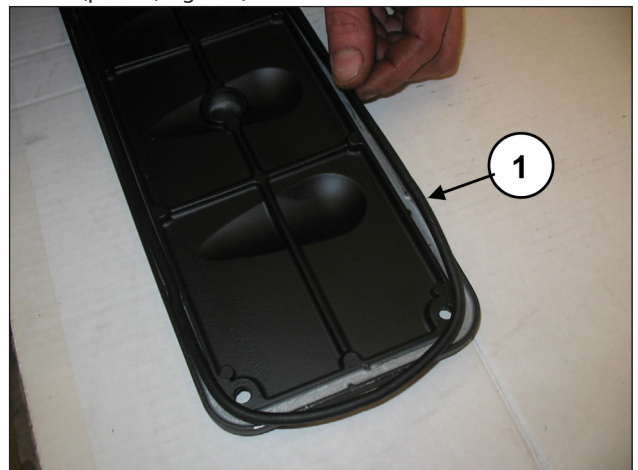

Fig. 102
Insert the O-ring on the two inspection covers (pos. ①, Fig. 102) and assemble the covers with the use of 4+4 M6x14 screws (pos. ①, Fig. 103).